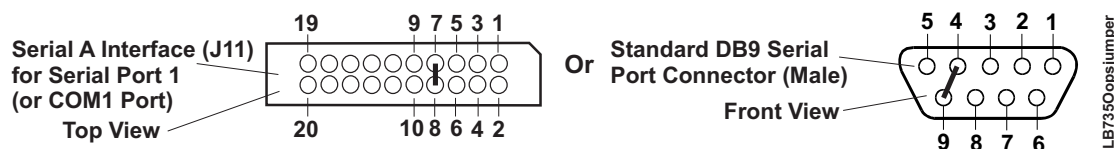

Figure 3-2. Oops! Jumper Connection
To convert the Serial A interface to an Oops! jumper, short together the DTR (7) and RI (8) pins on Serial A (J11) header for Serial Port 1. As an alternate, short the equivalent pins, 4 and 9, on the Serial Port 1 DB9 connector as shown in Figure 3-2.